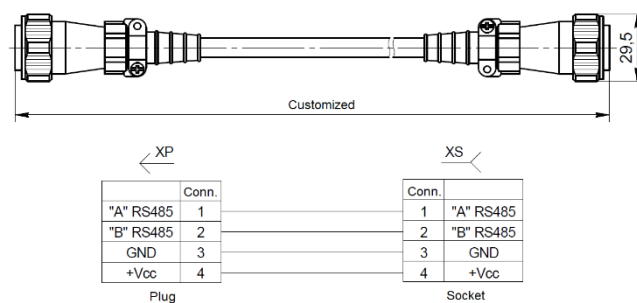

Figure 4. WY20/WY20 universal commutation cable
The WY20/WY20 universal commutation cable from the supplied package (see Fig. 4) is used for connection of the DN-130V or the Signal Transducer PS-150(RK) / PS-150(R1) / PS-150(RM) to the MU-150 / MU-150E / MK-140 unit of the DEL-150 System.